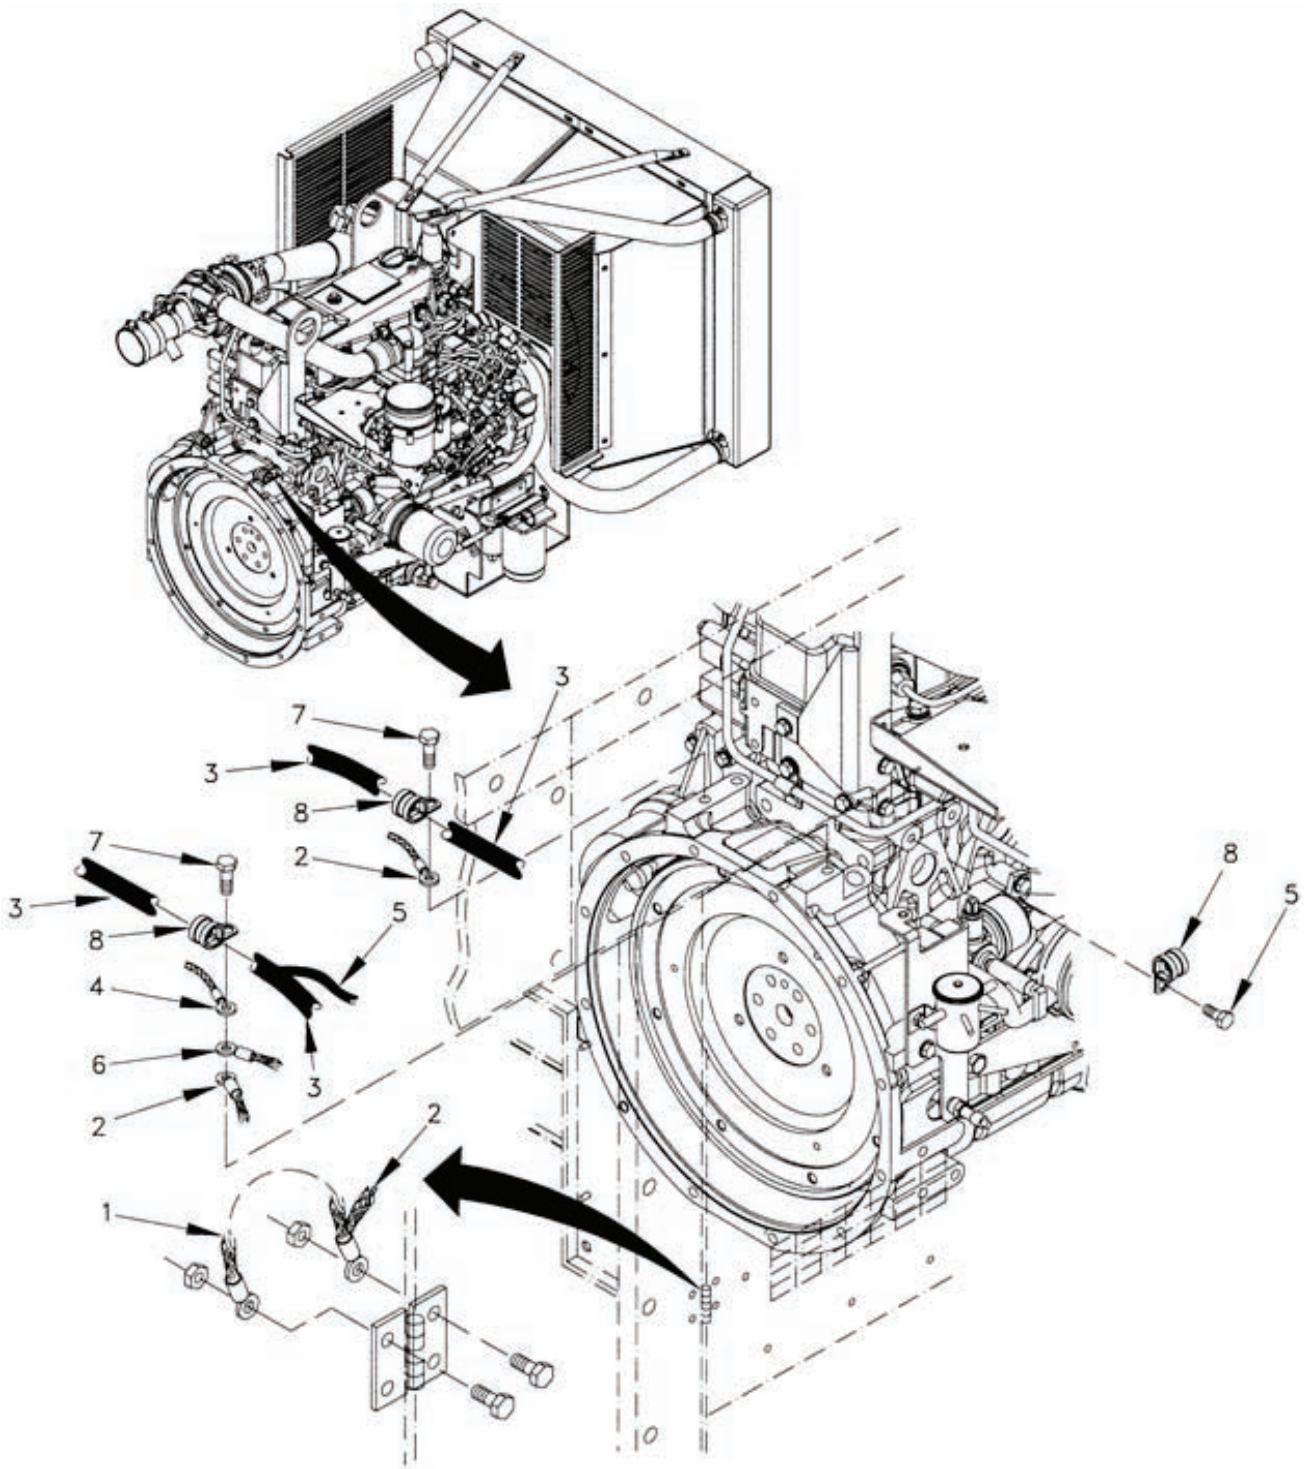

Figure 5-45. Engine Wire Harness Clamps and Shielding.
- f. Install doors and hinges with two ground straps (1 and 2, Figure 5-45) (Item 138 and Item 139, Table 5-1).
- g. Wrap harness with EMI/RFI shielding (3) (Item 129, Table 5-1). Secure ground strap (4) (Item 136, Table 5-1) to shielding (3).
- h. Wrap harness with EMI/RFI shielding (5) (Item 131, Table 5-1). Secure ground strap (6) (Item 137, Table 5-1) to shielding (3).
- i. Secure harness and ground straps (2, 4, and 6) to engine using screw (5) (Item 40, Table 5-1), cable clamp (8) (Item 28, Table 5-1), two screws (7) (Item 51, Table 5-1), and cable clamps (8) (Item 28, Table 5-1).